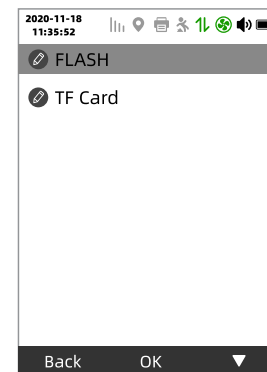
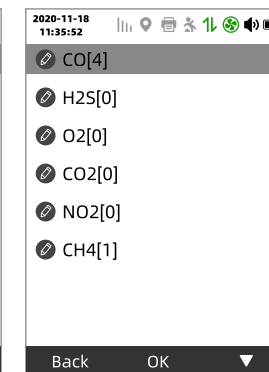
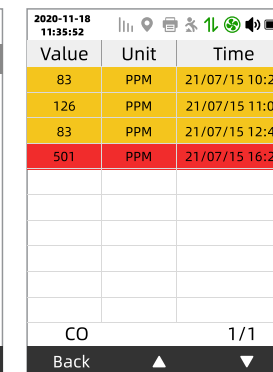

Figure 18
Figure 19
Figure 20
Select the data logging icon in the main menu interface of the detector and click the middle button to enter the data logging operation interface (Figure 18), "Internal Storage" is used to view the data record information stored in the internal storage space of the machine; "External Storage" is used to view the data record information stored in the external TF memory card. Click the left button to return to the previous menu; click the right button to switch menu options; click the middle button to confirm and enter the channel selection interface (Figure 19), click the left button in this interface to return to the previous menu; click the right button to select the channel, and click the middle button to confirm to enter the data record viewing interface (Figure 20).
Note: ① When the tester does not support TF memory card, there is no page shown in (Figure 18).
② The number in the channel selection interface [] represents the total number of data records under the corresponding channel. The internal storage single channel stores 20,000 pieces of data by default, and the external storage single channel stores 1 million pieces of data by default. For customization, please contact the manufacturer to change. In the data record viewing interface, you can view the alarm value, unit, and alarm time of the relevant gas channel. Dark yellow background means low alarm; red background means high alarm or over limit (HHHH); orange background means STEL alarm; blue-green background means TWA alarm; green background means normal. The value "1/1" in the lower right corner represents the current page/total number of pages.